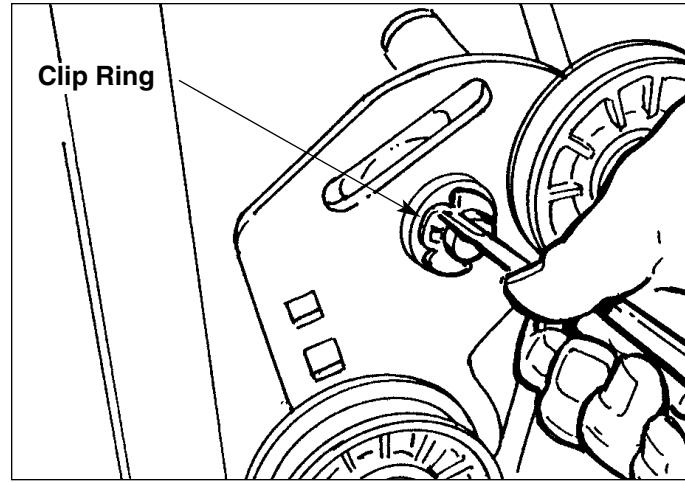

Figure B-20. Remove Clip Ring And Idler Arm Assembly
4. See Figure B-20. Slide the clip ring out of the groove on the pivot shaft, and remove the idler arm assembly from the unit by pulling it straight out and off the shaft. (See Foot Controls section 6C for specific idler arm assemblies and components used on various models.)